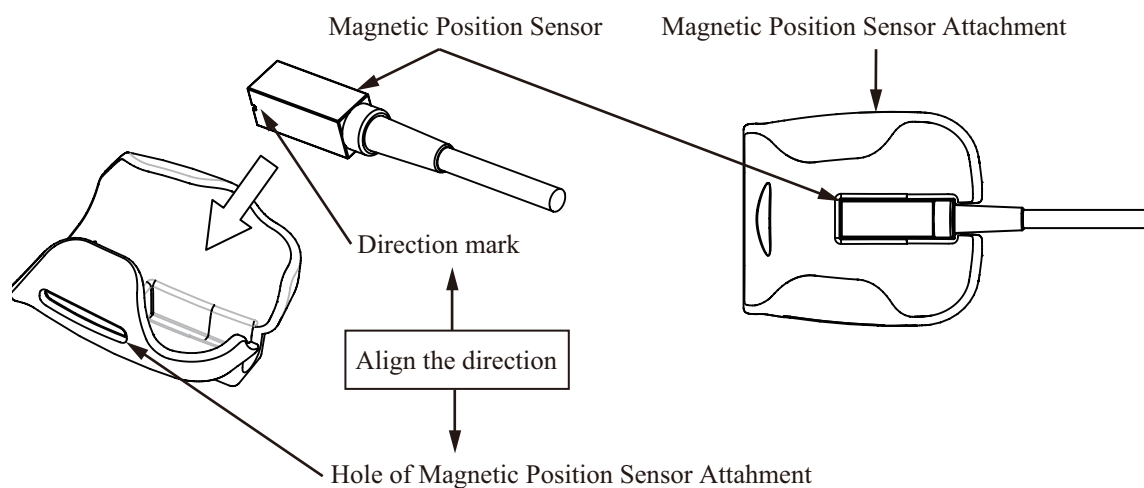

Figure 3 How to attach Magnetic Position Sensor
- (1) Align the direction mark of the magnetic position sensor and the hole of the magnetic position sensor attachment and place the sensor into the attachment (Figure 3).